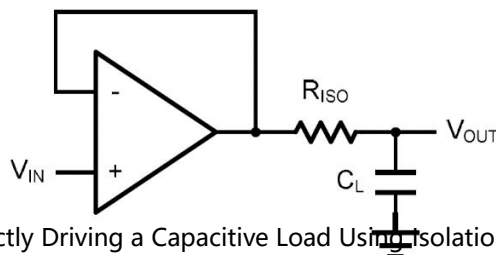
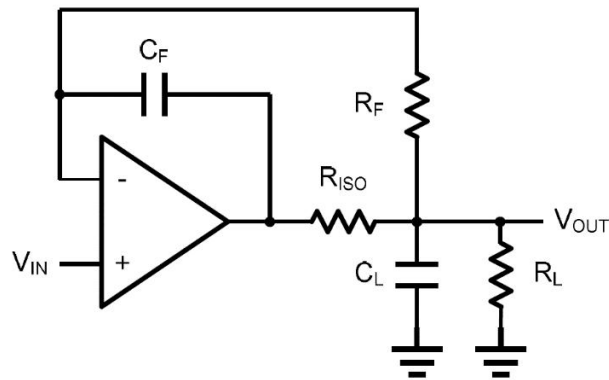

Figure 2. Indirectly Driving a Capacitive Load Using Isolation Resistor
Figure 3. Indirectly Driving a Capacitive Load with DC Accuracy
The CBM809X family is optimized for bandwidth and speed, not for driving capacitive loads. Output capacitance will create a pole in the amplifier's feedback path, leading to excessive peaking and potential oscillation. If dealing with load capacitance is a requirement of the application, the two strategies to consider are (1) using a small resistor in series with the amplifier's output and the load capacitance and (2) reducing the bandwidth of the amplifier's feedback loop by increasing the overall noise gain. Figure 2. shows a unity gain follower using the series resistor strategy. The resistor isolates the output from the capacitance and, more importantly, creates a zero in the feedback path that compensates for the pole created by the output capacitance.
The circuit in Figure 3 is an improvement to the one in Figure 2.  $R_F$  provides the DC accuracy by feed-forward the  $V_{IN}$  to  $R_L$ .  $C_F$  and  $R_{ISO}$  serve to counteract the loss of phase margin by feeding the high frequency component of the output signal back to the amplifier's inverting input, thereby preserving the phase margin in the overall feedback loop. Capacitive drive can be increased by increasing the value of  $C_F$ . This in turn will slow down the pulse response.